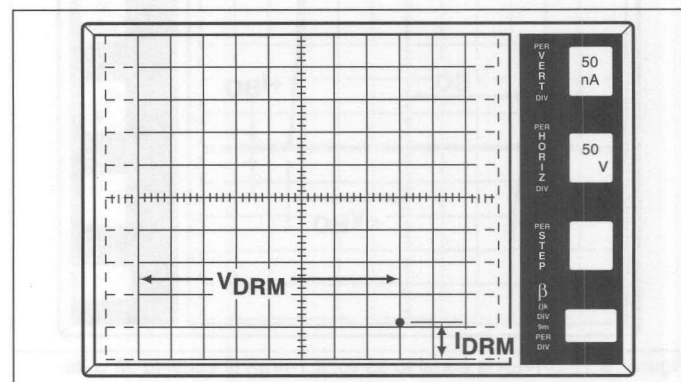

Figure 19.16 (+) I_{DRM} is equal to 51nA at (+) V_{DRM} equal to 400 volts
2. Increase *Variable Collector Supply Voltage* to the rated V_{DRM} of the device and observe the dot on the CRT. (Read across horizontally from the dot to the vertical current scale.) This measured value will be the leakage current. (See Figure 19.16.)